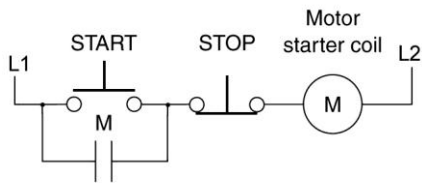

Figure 6-19 Circuit for question 41.
41. The purpose of the M contact shown in the circuit of Figure 6-19 is to 41. _____